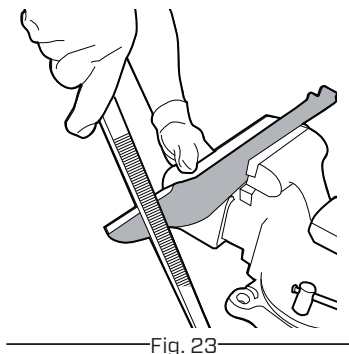

Fig. 23
5. To check the blade balance: clamp a nail or a screw driver with a round shank in the horizontal position. Position the blade so that the nail or round shank of the screwdriver supports the blade through its center hole. Balance the blade horizontally. If either end of the blade rotates downward, remove some metal from the heavy or lower end until the blade is balanced. It is balanced when neither end drops. See figure 23.